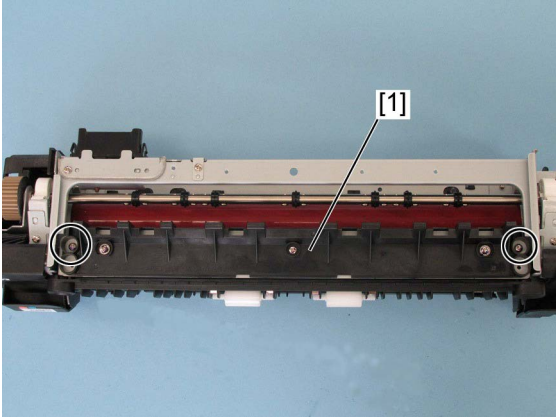

Fig.8-66
1. Adjust the installed position of the fuser unit up or down and check if the paper wrinkle disappears. ( P. 8-489 "8.5.30 White void in the halftone") 2. Adjust the inlet guide[1] of the fuser unit and check if the paper wrinkle disappears. (Fig.8-66)